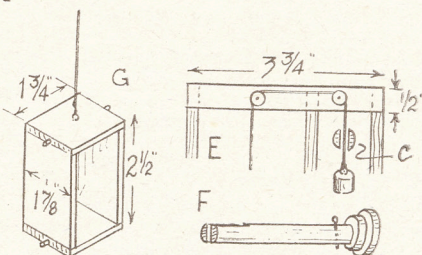

Fig. 2—The lift and mechanism
Across the slots in side (A) and strips (a) and (b), a piece of $\frac{1}{2}$ in. by $\frac{1}{2}$ in. wood is to be glued, to which the pulleys over which the lift cord passes, can be fitted. This is shown in position in Fig. 2 (E). Place it across temporarily, and pencil lines on it exactly in the centre of the lift and weight shafts.